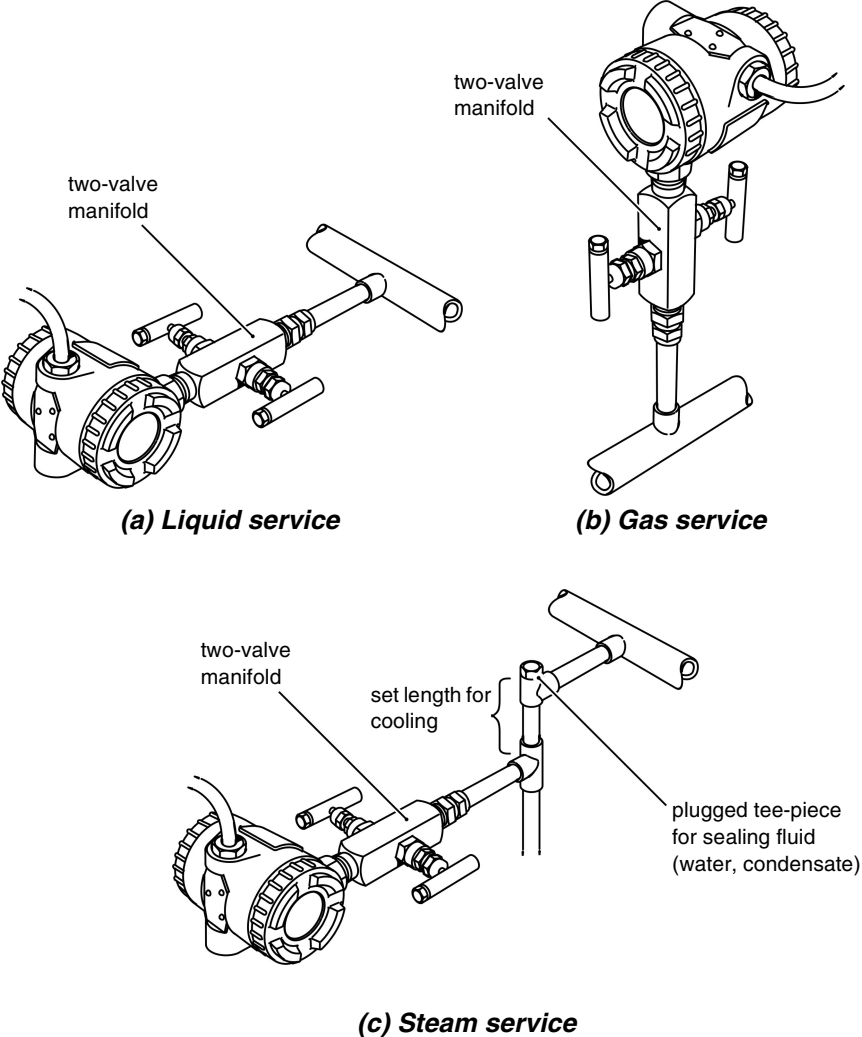

Figure 3-3: Piping arrangements
3.3 Location and Mounting (Figure 3-3)
3.6 Impulse Piping (Figure 3-3)